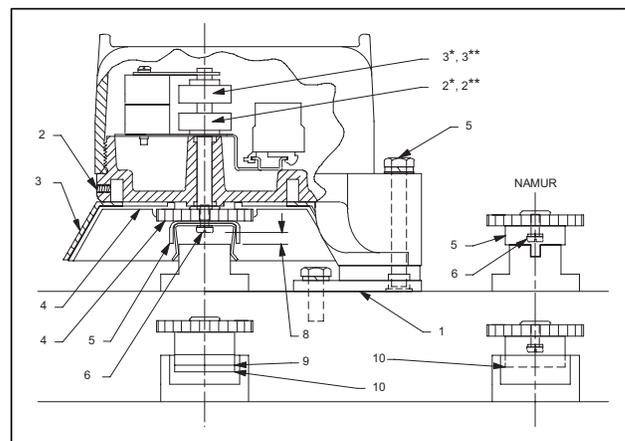

Fig. 3 Mounting and switch setting steps
2. Lift the bottom cam and turn counter-clockwise until the red LED goes "out" then clockwise again until the red LED just comes "on". Reverse the direction of the cam if the valve opens clockwise. (2* in Fig. 3).
3. Move the valve to the opposite position (Open), push down on the top cam and rotate counter-clockwise until the green LED just comes "on". Reverse the direction of the cam if the valve opens clockwise. (3* in Fig. 3).
2. If the valve turns counter-clockwise to open, pull up on the bottom cam and rotate clockwise until the red LED goes "out". If the valve turns clockwise to open, rotate bottom cam counter-clockwise until it goes out. (2** in Fig. 3).
3. Operate the valve to the opposite position (Open). Push down on the top cam. If the green LED is "off", rotate top cam clockwise until it comes "on". When the green LED is "on" turn cam counter-clockwise until the green LED just goes "off". (3** in Fig. 3).